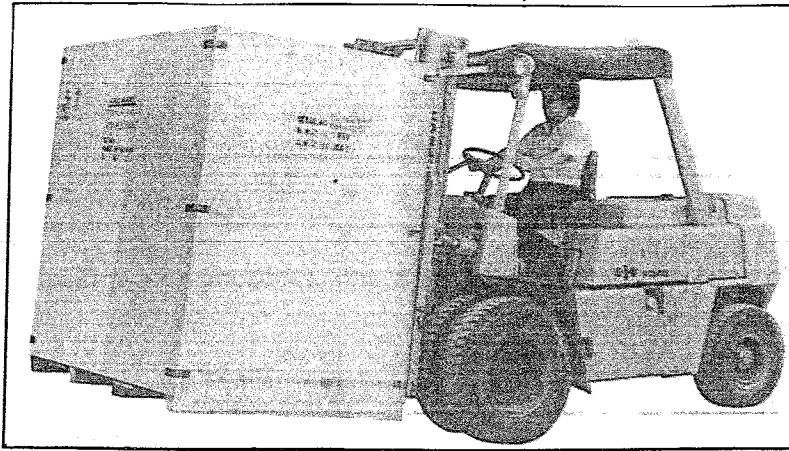
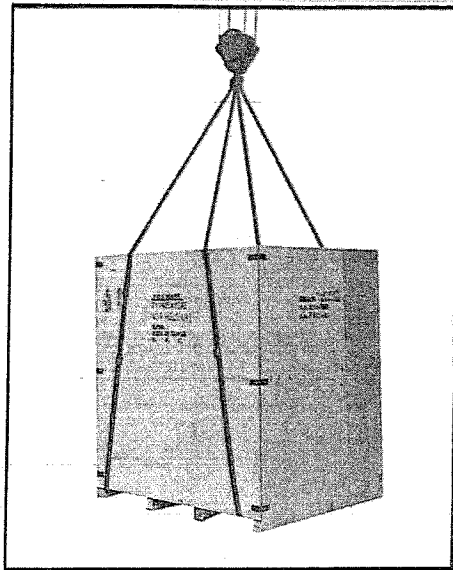

Figure 20
Figure 21
- (1) Prior to unpacking, transport may be made by using a forklift (Figure 20) and a reinforced cable (Figure 21).